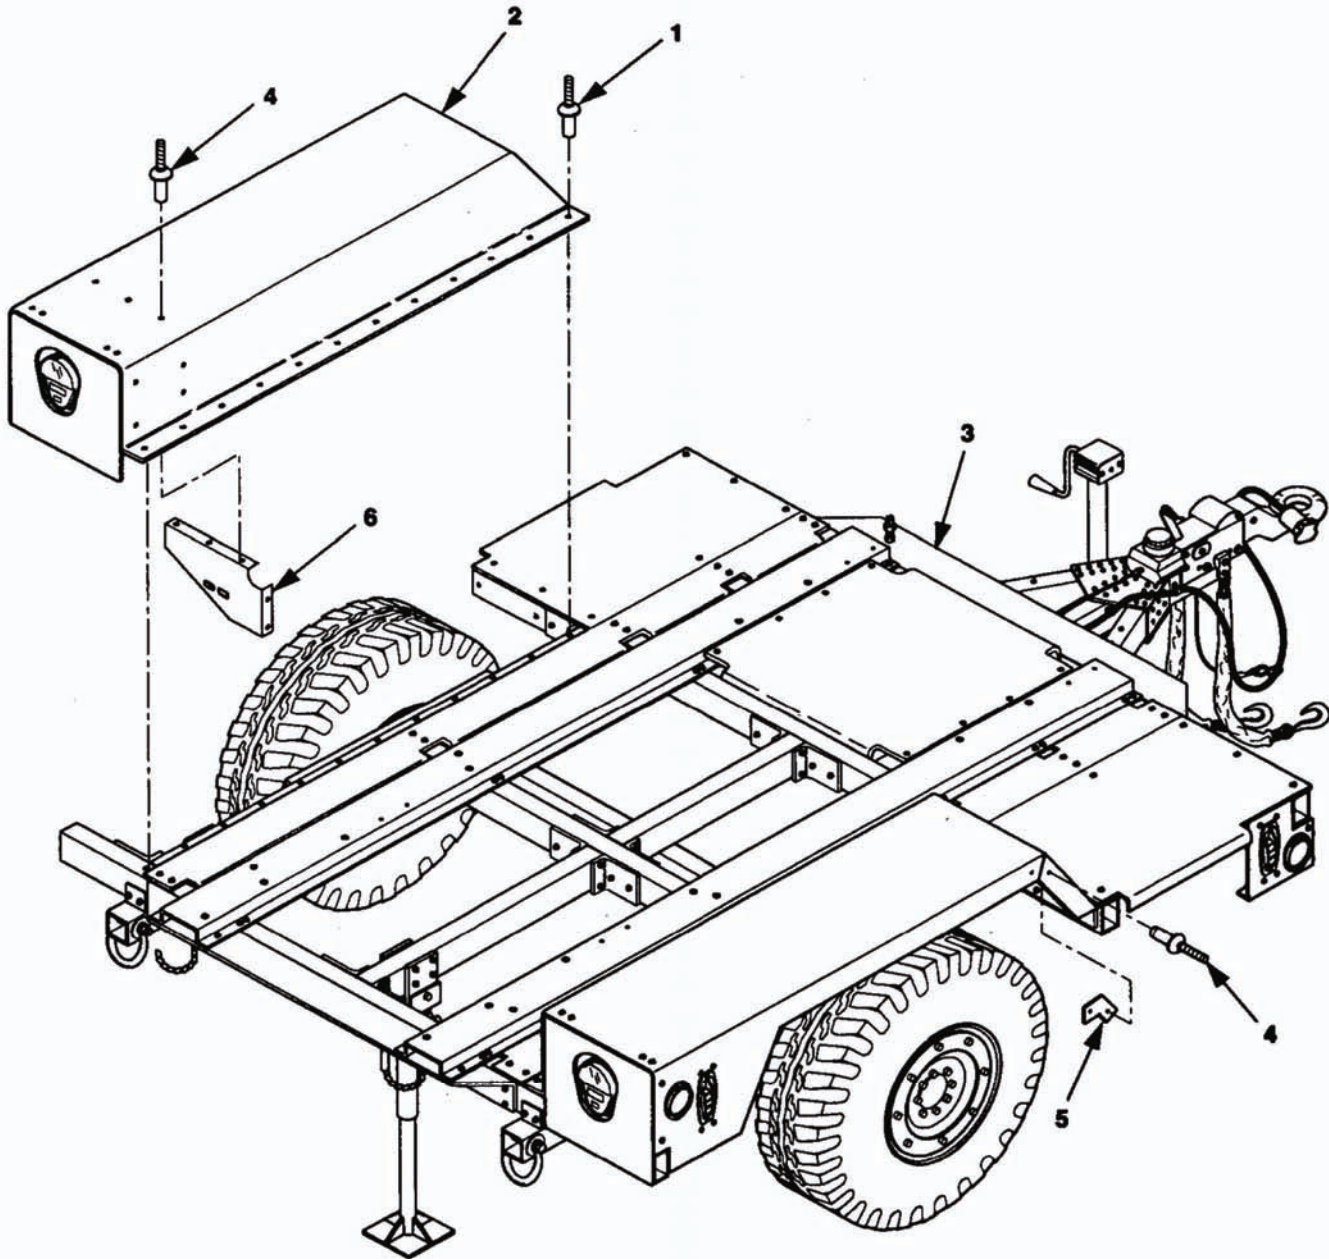

Figure 5-19. PU-801A and AN/MJQ-48A Fender Replacement.
- b. Remove rivets (1, figure 5-19) and fender (2) from trailer chassis (3).
Repair of fenders consists of welding, straightening, and spot painting as required, and replacement of rivets (4, figure 5-19), fender angle support (5), and tail light bracket (6).
a. Place fender (2, figure 5-19) on trailer chassis (3), and secure with rivets (1).
(1) Data plate (paragraph 4-22).
(2) Fire extinguisher and bracket (paragraph 4-20)
(3) Side marker light (TM 9-2330-392-14&P)